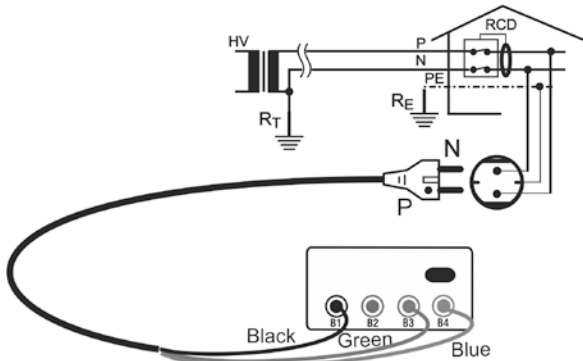
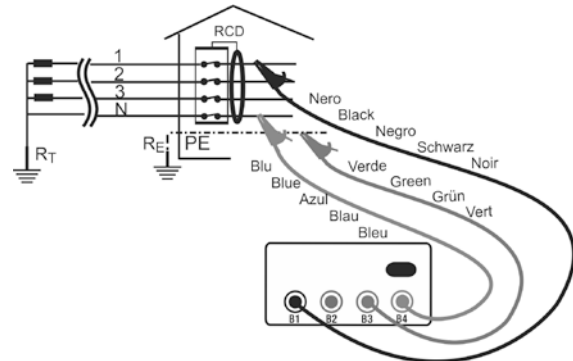
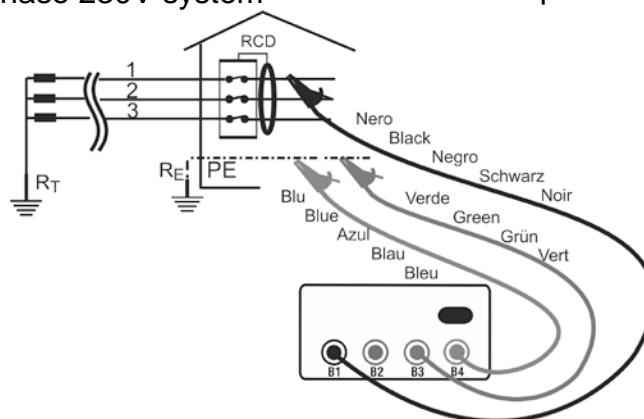

Fig. 13: Connection for R_a measuring of single-phase/two-phase 230V system
Fig. 14: Connection for R_a measuring of three-phase 400V + N system
Fig. 15: Connection for R_a measuring of three-phase 230V or 400V system without N
2. Insert the 3 Black, Green, Blue connectors of the shuko cable or of the separate cables into the relevant instrument input terminals **B1**, **B3**, **B4** (see Fig. 13, Fig. 14, Fig. 15). In case separate cables are used, insert alligator clips on the free cable ends.
3. Insert the Shuko plug into a 230V 50Hz socket or the alligator clips onto the conductors of the three-phase system (see Fig. 13, Fig. 14, Fig. 15)